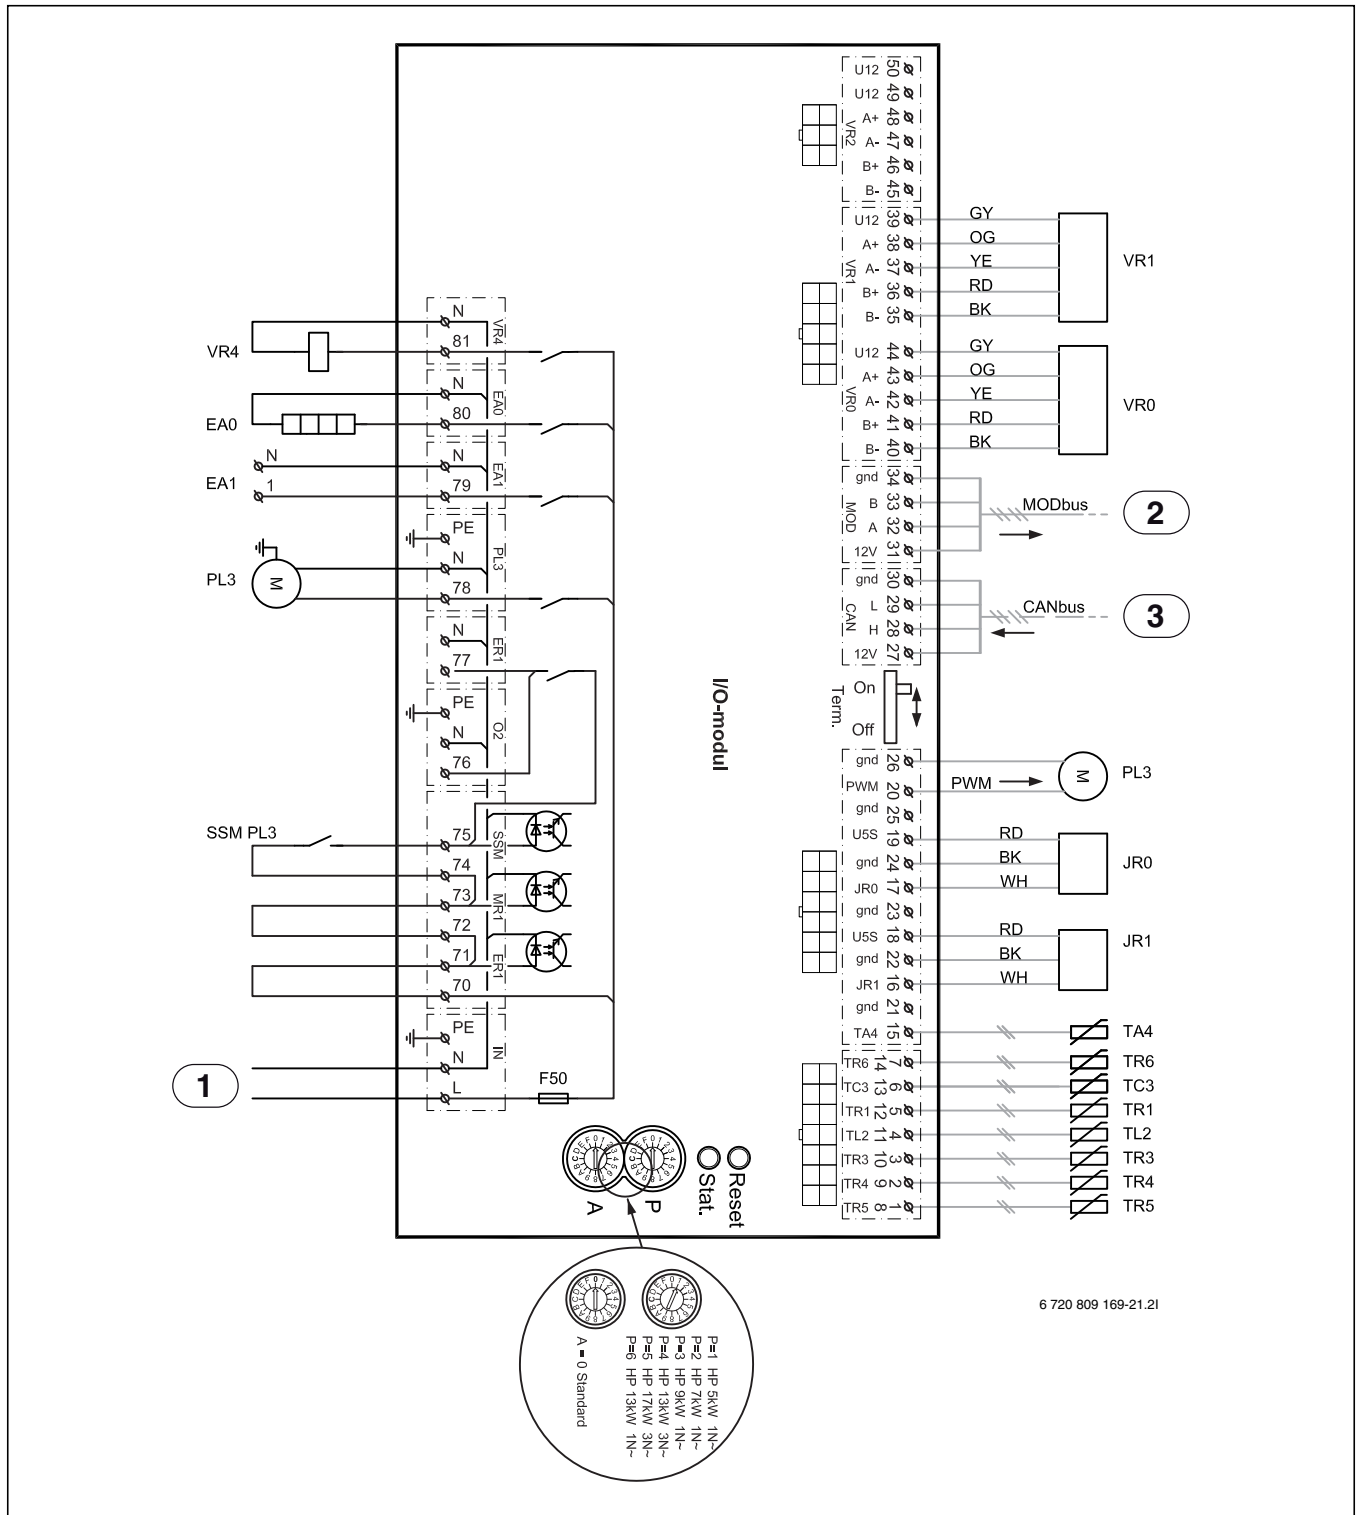

Fig. 20 Circuit diagram I/O module card
- [3] MOD BUS to I/O module card ([2] Fig. 20)
- [4] Power supply to I/O module card ([1] Fig. 20)